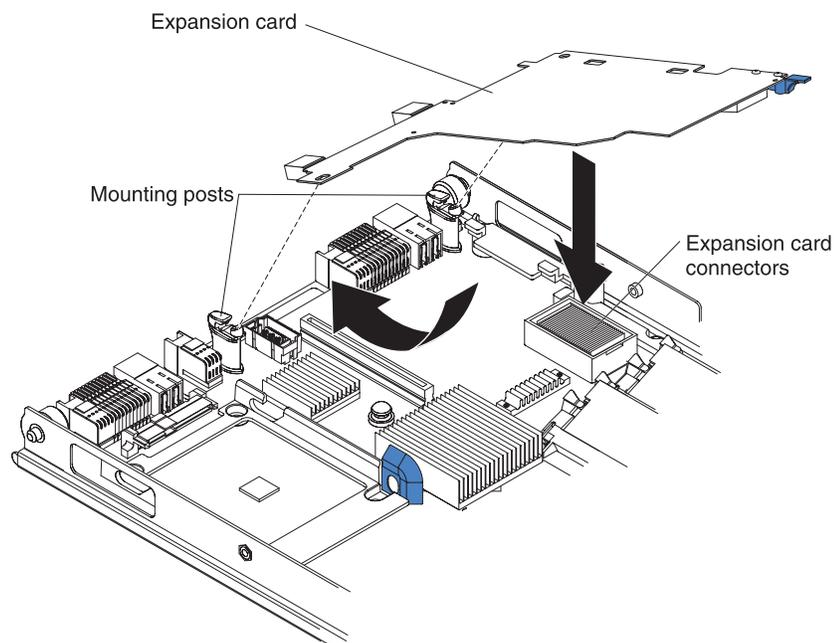

Figure 1. Installing the QLogic Ethernet and 8 Gb Fibre Channel Expansion Card (CFFh) in a blade server
8. Locate the expansion-card connectors on the system board in the blade server, as shown in Figure 1 on page 17.
- If there is a protective cover over the system-board blade-expansion connector, also known as the PCI Express expansion-card connector on the system board, remove the protective cover. The protective cover contains the words “BLADE EXPANSION.” In Figure 1 on page 17, the PCI Express
10. Align the expansion card over the system board in the blade server, as shown in Figure 1, so that the expansion-card connectors on the reverse side of the expansion card are correctly aligned above the matching expansion-card connectors on the system board in the blade server.
11. Install the expansion card as shown in Figure 1.
- b. At an angle, slide the card into the mounting posts that are shown in Figure 1. Then, gently pivot the card into the expansion-card connectors.